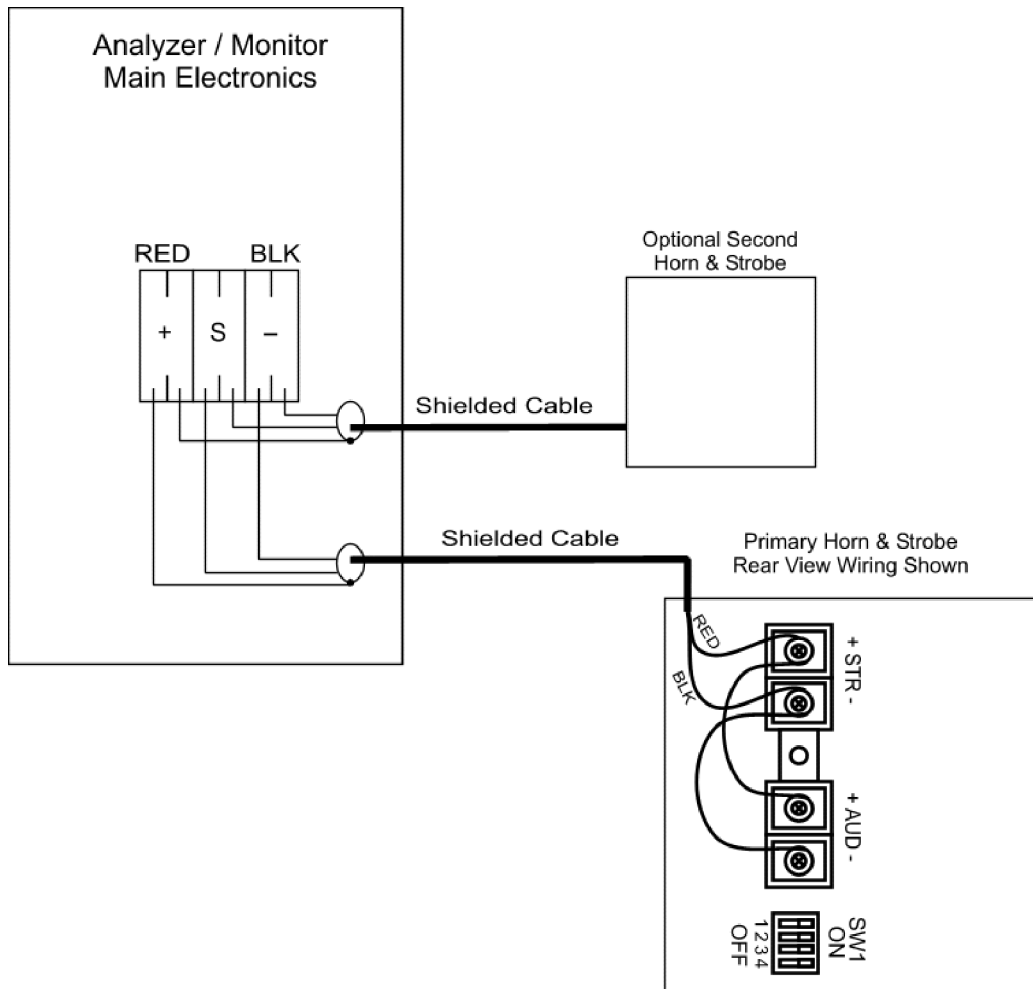

Figure 11-2: DC Powered Horn and Strobe
After mounting the Horn & Strobe Alarm Annunciator chassis in the desired location, wire it to the Series 1000 Oxygen Deficiency Monitor. Figure 11-2 provides wiring information.
5. Remove the cover to the Horn & Strobe Alarm Annunciator by loosening four outside screws and lifting the cover and annunciator away from the chassis. Insert the wire through the cable strain relief, and terminate the black and red wires as shown in Figure 11-2.